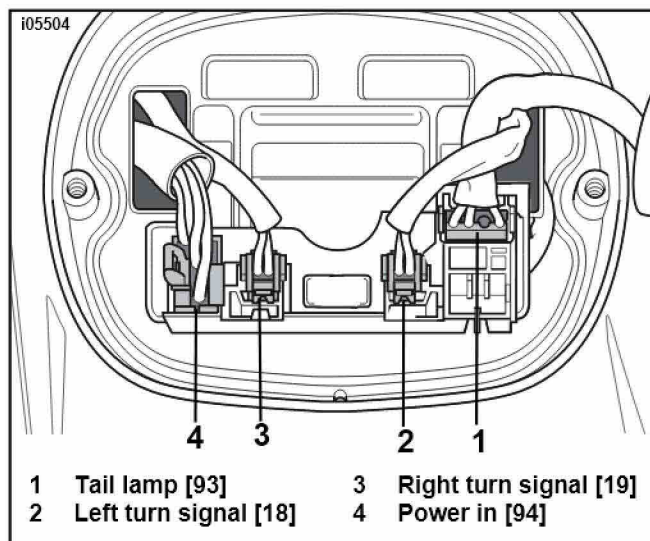

Figure 5. Rear lamp connections
12. See Figure 5. Install the stock circuit board assembly as shown to the tail lamp/ license plate bracket by pushing the circuit board assembly studs into the sockets in the bracket.
14. See Service Parts Illustration. Capture the turn signal wires with the tabs located on the left (8) and right (9) plate brackets.